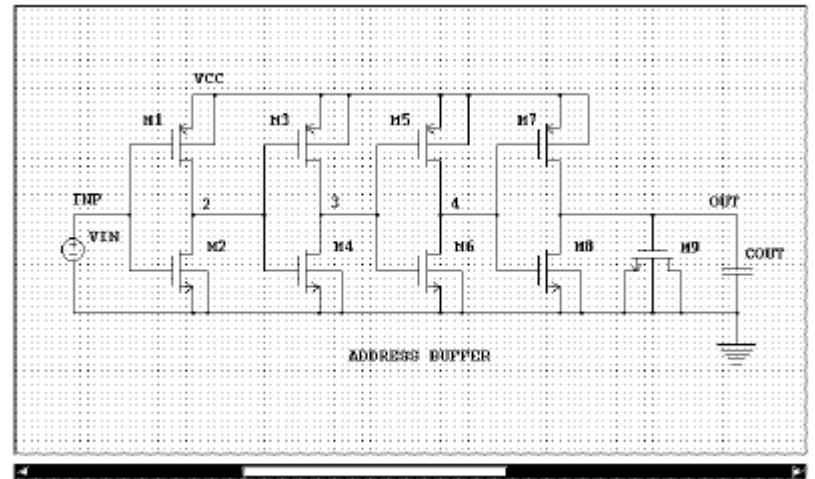

Figure 2-2: Address Buffer Circuit
- For the circuit shown in Figure 2-2, the optimization targets at the temperature 75oC are: